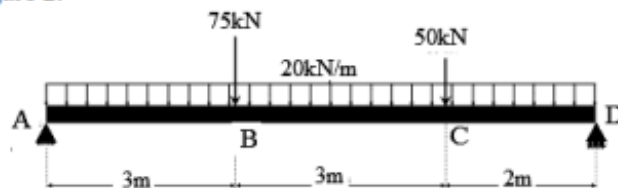

Figure 2
- 4.a) Determine the slope at supports and deflection at points B and C by Macaulay's method shown in figure 2.